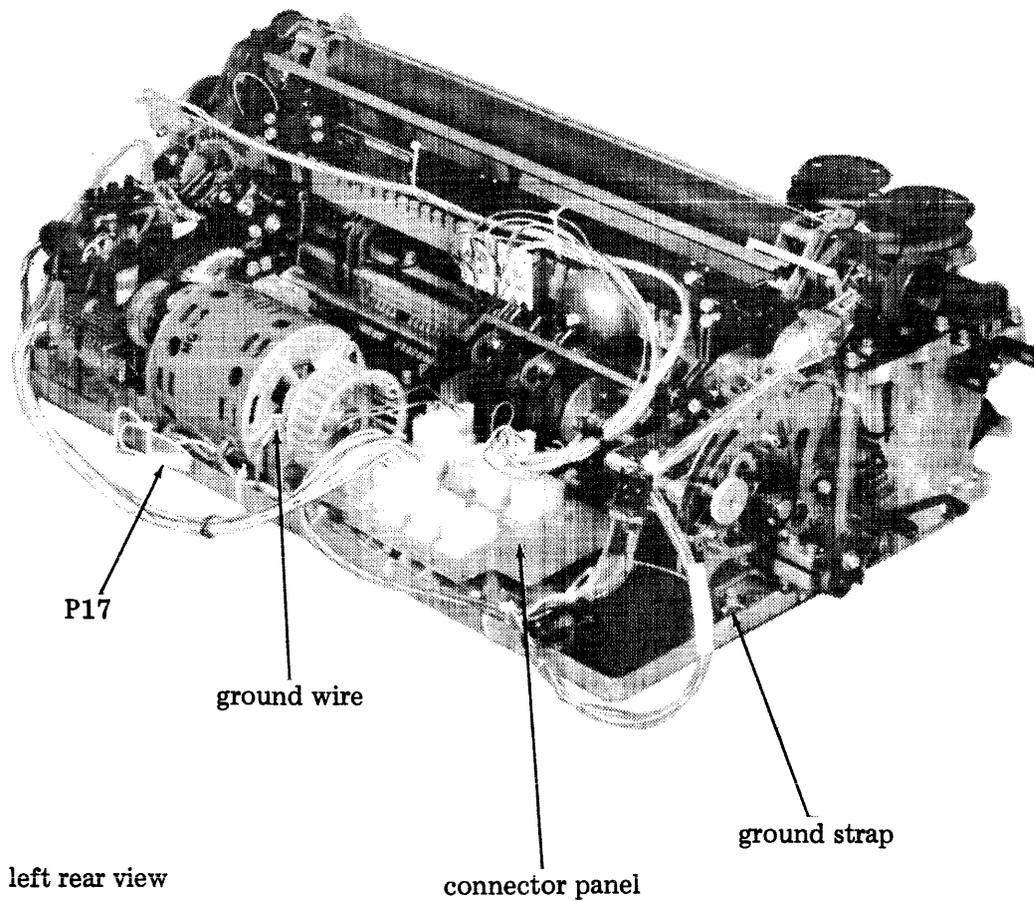

Figure 4 - 38 Printer
2.07 Remove printer (Figure 4) as follows: